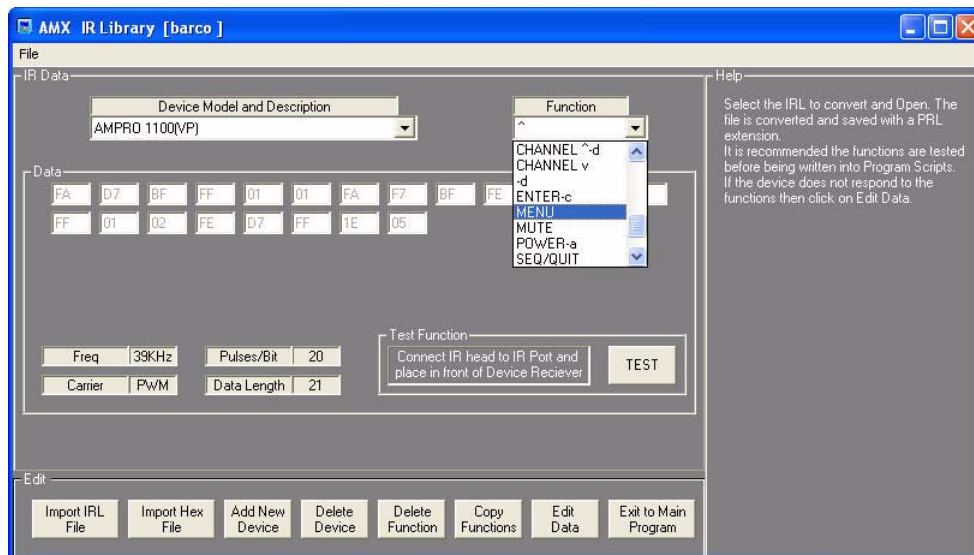

FIG. 70 AMX IR Library dialog - showing a converted IRL file
3. The selected IRL file is converted to the PLR format (FIG. 70).